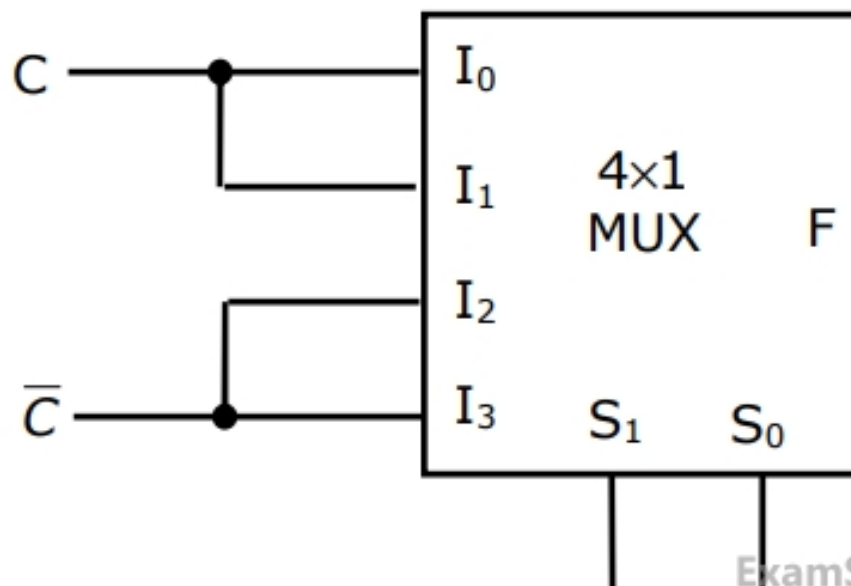

Figure 4.10:
16. Find the logic realized by the circuit in Fig. 4.10.